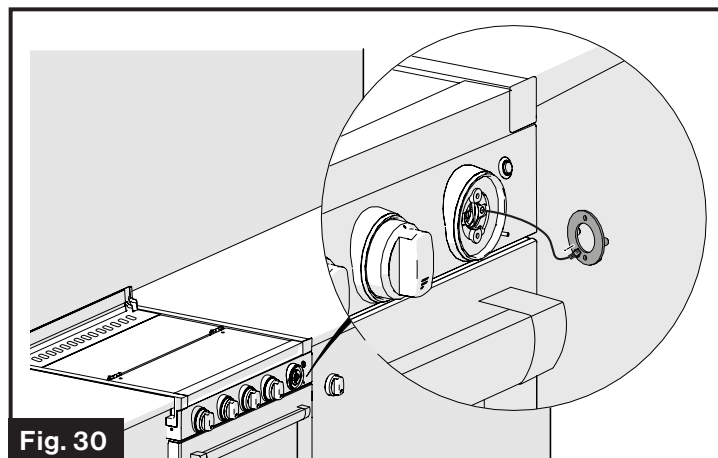

Fig. 30
4. Remove the LED assembly and disconnect the wire from the base of the LED assembly. (Fig. 30)